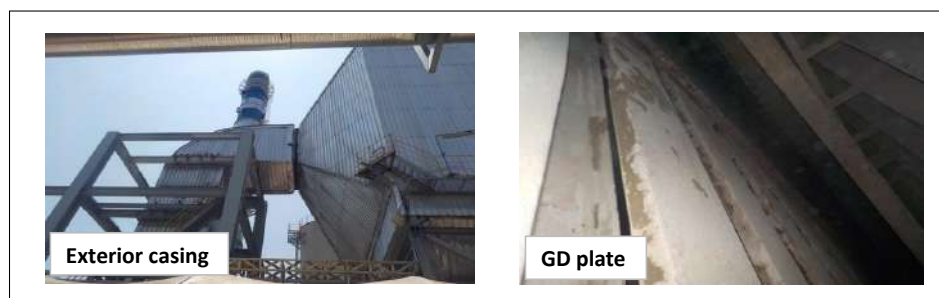

Fig.2 Outlet cone
2. Outlet cone: The exterior casing was in normal condition, and the GD plate inside the outlet cone was also in normal condition; only ash accumulation was found.(Fig.2)